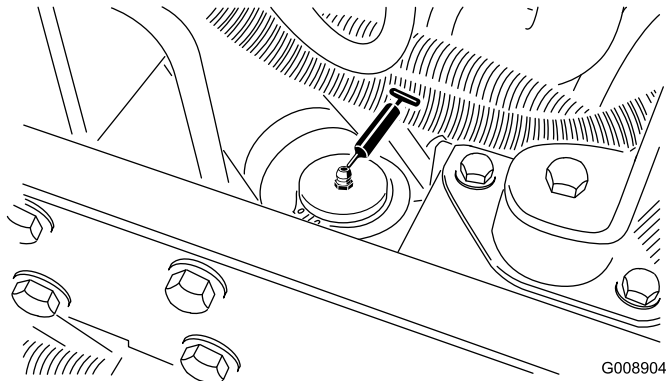

Figure 46
- Steering cylinder (Figure 46).